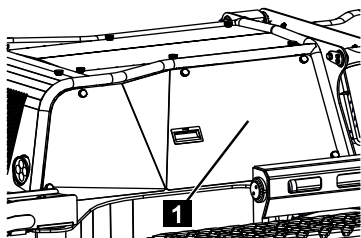

Fig. 223
1. Unscrew the cover (Fig.223/1).